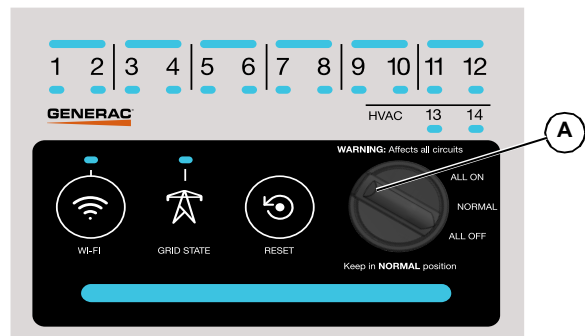

Figure 3-9. Turn Selector Knob to All Off
See Figure 3-9. To avoid any unsafe conditions when first configuring the unit for operation, turn the mode selector knob (A) to All Off until the relay pairing has been done. This will prevent any unintended connections while in commissioning.